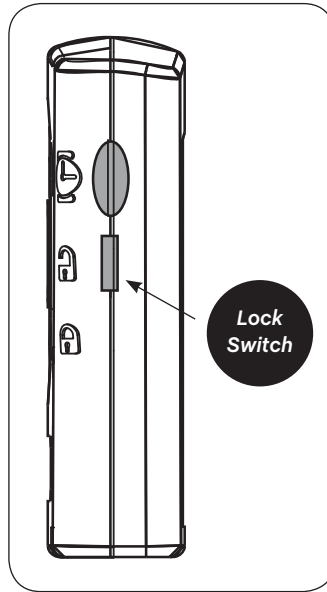

figure 7A: Check Device Charge
A. To prevent accidental activation during shipping, the device will arrive to the user in the 'locked' position. To unlock the device, slide the *Lock Switch* on the sam Power Controller 'up' into the 'unlocked' position (Figure 7A).